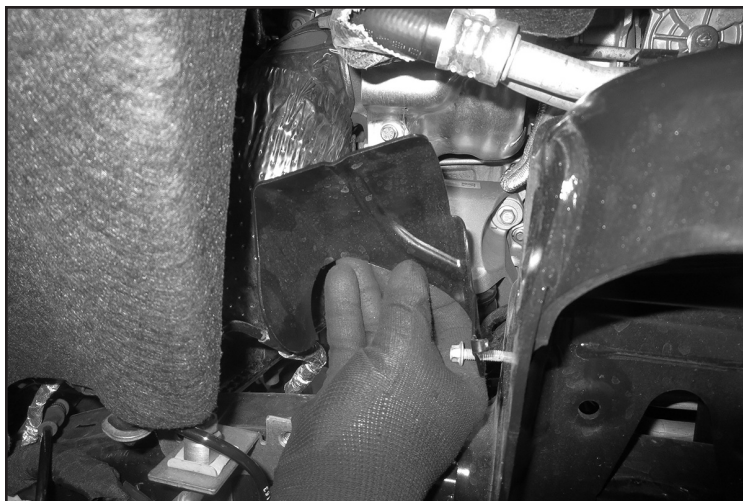

FIGURE 7 - STEP 12
12. Repeat steps on the passenger side. **NOTE: The bracket on the passenger side upper strut mount will need to be removed to get the upper control arm bolt out. SEE FIGURE 7**